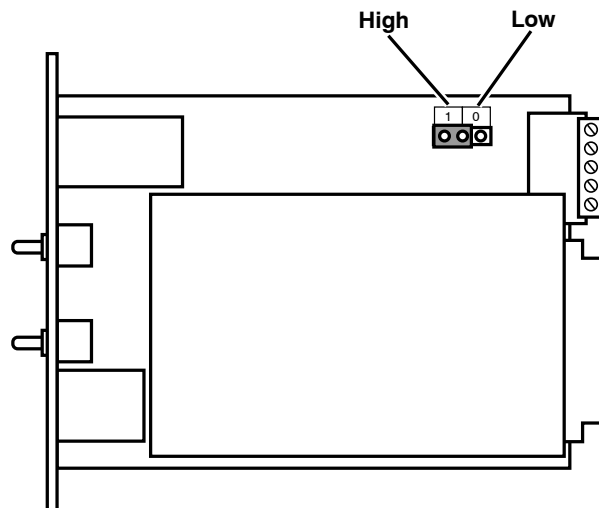

Figure 7.2: Control Module Jumper
1. **Control Card Jumper Setting:** Set the Jumper to the "1" position (default.) This will set the non-active, non-alarm signal state to "High" as shown in Figure 7.2.
1. **Control Card Jumper Setting:** Set the Jumper to the "0" position. This will set the non-active, non-alarm signal state to "Low" as shown in Figure 7.2.